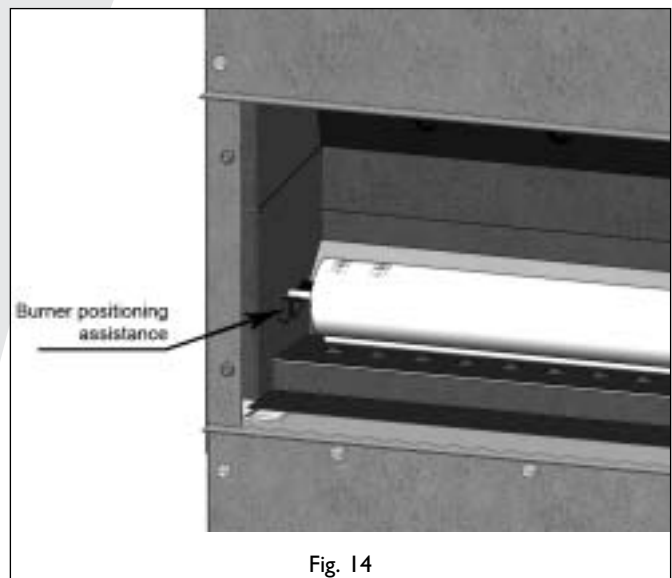

Fig. 14
- Place the pin at the end of the burner tube on the V; see fig. 14;